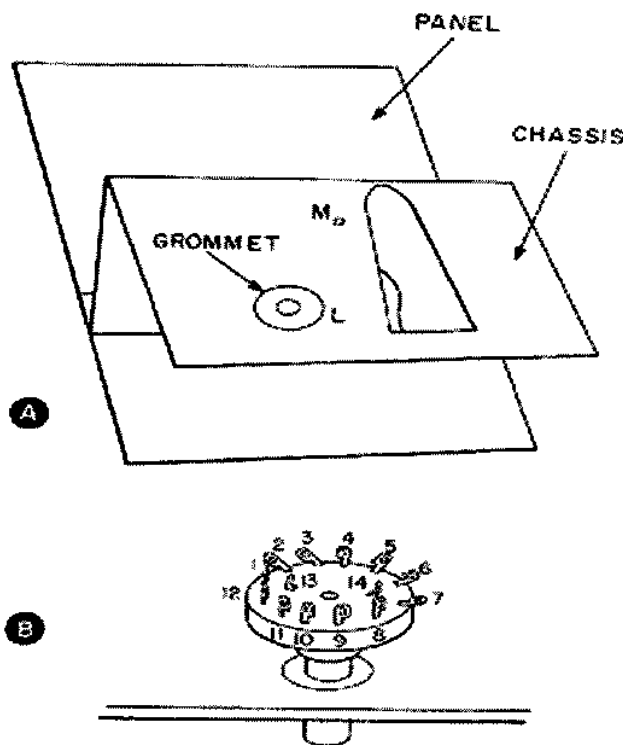

Figure 9 – How to support the range switch for easy wiring.
- ( ) Insert the shaft of the range switch through the grommet in hole L as far as the threaded portion. Fig. 9 shows the position of the switch which is in an upright position so that it is easy to work on. The switch may be easily rotated to any position.